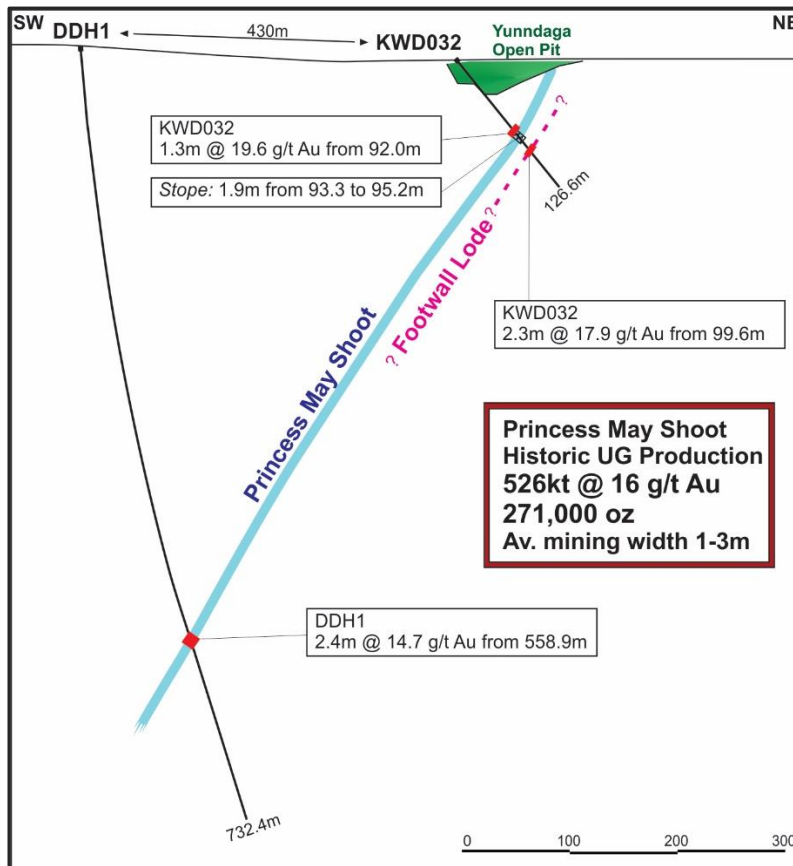

Figure 1: Schematic cross section of the Princess May Shoot, the deepest drill intersection within the MGP (DDH1), and location of new footwall lode.
KWD031 – 034 are located closer to or within the historic Princess May lode which has been mined to 600 vertical metres. The deepest historic drilling at Menzies targeting an extension of the Princess May shoot at Yunndaga returned 2.4m @ 14.7 g/t Au from 558.9m in DDH1 (Figure 1). Kingwest considers that depth potential persists across the project at the other high-grade lodes.
**1.3m @ 19.82g/t Au** from 92.0m, **inc. 0.3m @ 64.4g/t Au** from 92.3m in KWD032 (in hanging wall of Princess May stope at Yunndaga) and **2.28m @ 17.87g/t Au** from 99.65m, **inc. 1.20m @ 33.80g/t Au** from 99.65m in KWD032 (new footwall lode beneath Princess May workings at Yunndaga) (Figures 1 and 2).